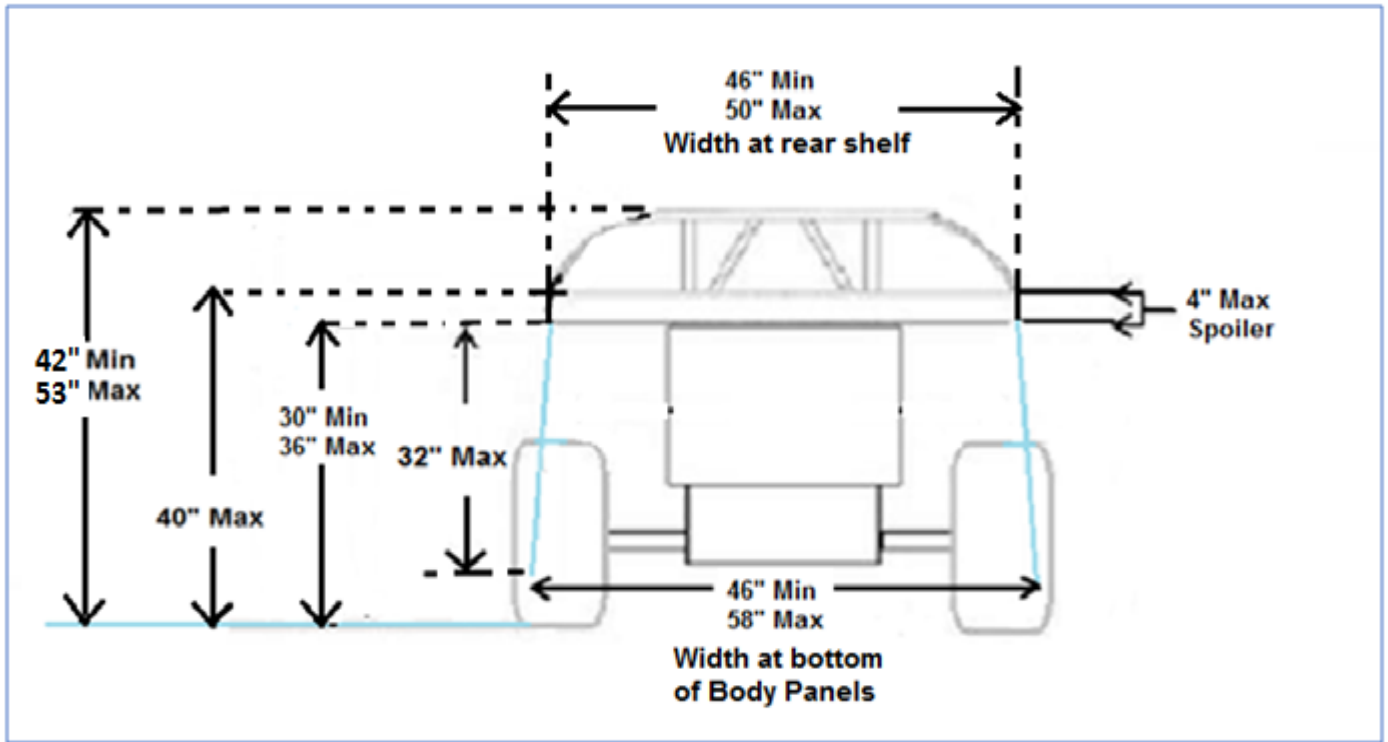

Figure 2
- 7.3 Width at rear shelf of body panels is 46 inches min 50 inches max (No tolerance) *(Figure 2)*.
- 7.4 Width of body panels at lowest point: min 46 inches, max 58 inches (No tolerance) *(Figure 2)*.
- 7.14 No part of the roof panel can be taller than 53 inches or less than 42 inches when measured vertically from the ground, no tolerance *(Figure 2)*.